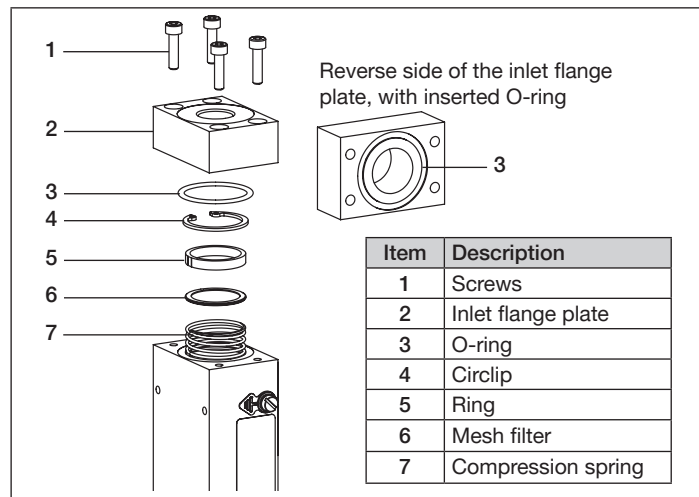

Fig. 24: Cleaning the stainless steel mesh filter
- Regularly inspect the contamination of the stainless steel mesh filter [5] (see Fig. 24).
- Remove the inlet flange plate [2] by loosening the 4 screws [1] (see Fig. 24).